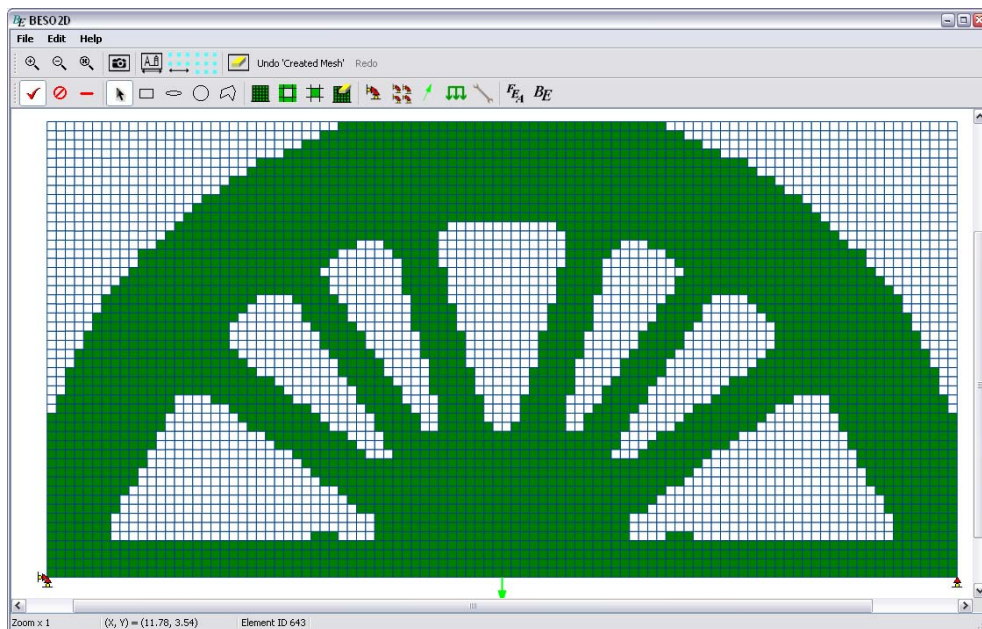

Figure 12 Displaying the solution with 60.0% volume fraction obtained from a command line optimization.
- Now the final design can be imported to BESO2D GUI to be viewed. Under the “File” menu of the BESO2D window, click “Import Model”, go to the working folder “D:\BESO2D” and select the model file with the largest iteration number which contains the last design. Click on “OK” to open this design. Then the final design will be displayed in the BESO2D GUI window as shown in Figure 12. Note that the designs in the last few iterations are similar due to the convergence of the solution.